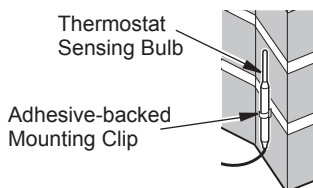
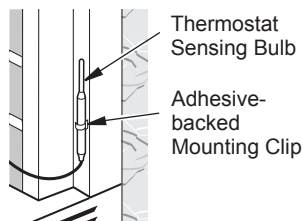
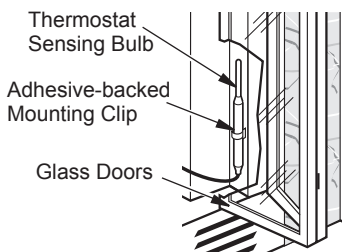

Figure 40 - Locating Thermostat Sensing Bulb on Masonry Fireplace
Figure 41 - Locating Thermostat Sensing Bulb on Factory-built Metal Fireplace
Figure 42 - Installing Thermostat Sensing Bulb Behind Glass Doors
3. The thermostat sensing bulb may be located to the lower right front side of fireplace. Determine location of sensing bulb, but do not mount sensing bulb until step 4. If you have a masonry fireplace, see Figure 40 for location. If you have a factory-built metal fireplace, see Figure 41 for location. If your fireplace has glass doors, position sensing bulb directly behind door gap on right bottom side (see Figure 42).